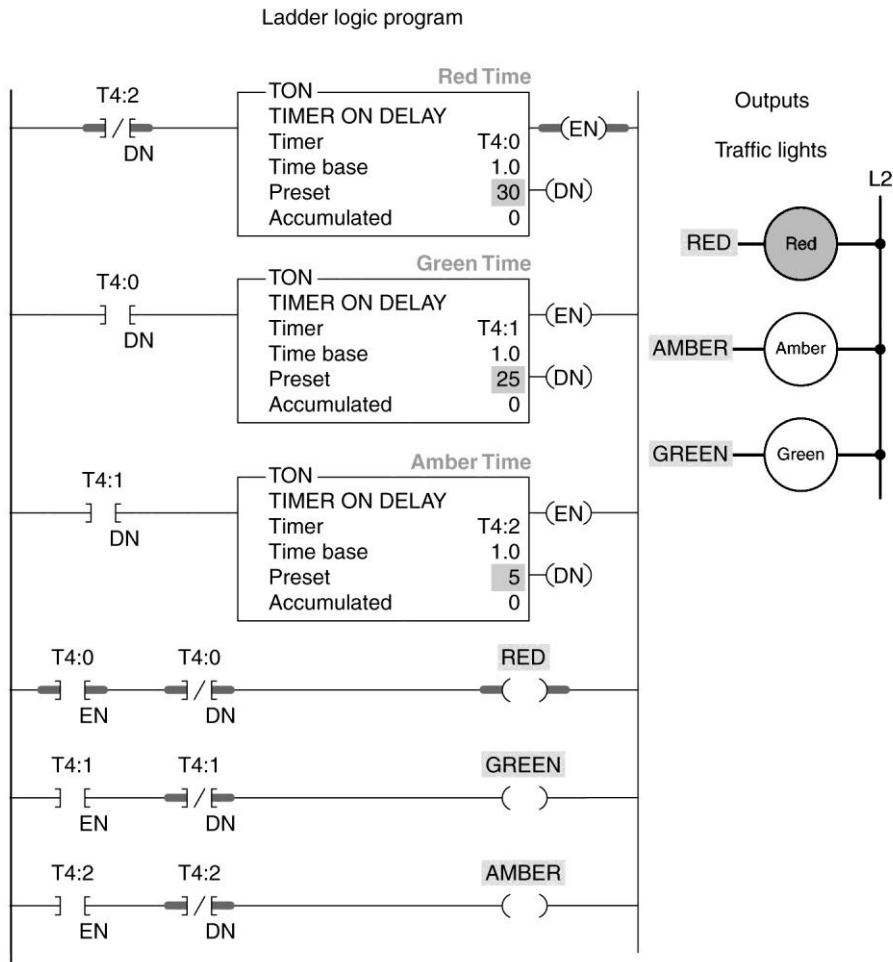

Figure 7-31 Traffic lights program for assignment 15.
15) The program of Figure 7-31 is described in the text and is used for control of traffic lights in one direction. Prepare an I/O connection diagram and ladder logic program for the process. Use addresses that apply to your PLC. Enter the program into the PLC, and prove its operation